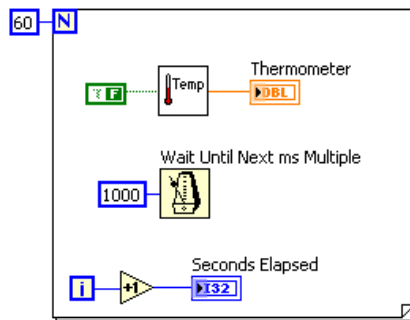

Figure 4.12
1. Build the block diagram shown in Figure 4.12.